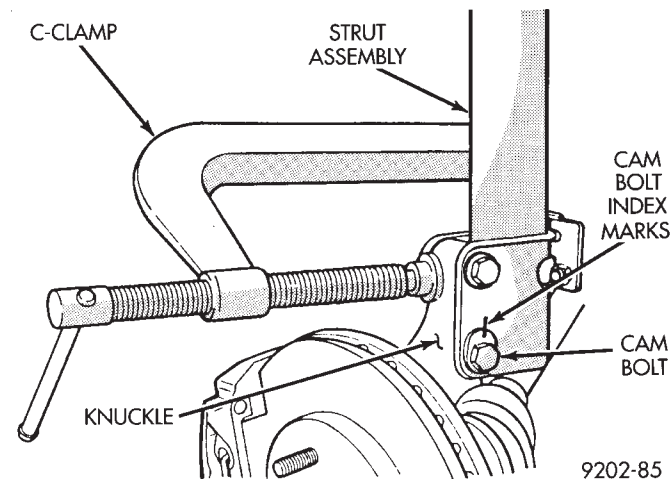

Fig. 2 Strut Damper Installation
(5) Place a 4 inch (or larger) C clamp on the strut and knuckle as shown in (Fig. 2). Tighten the clamp just enough to eliminate any looseness between the knuckle and the strut. Check alignment of the index